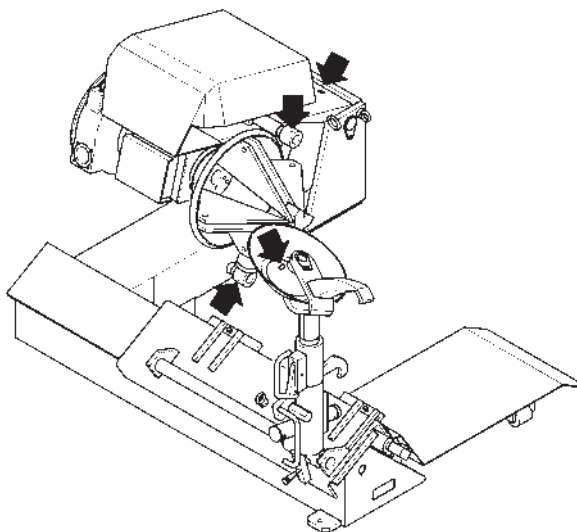

Fig.35
1. Lubricate all points provided with a greasing nipple once a month (Fig.35).